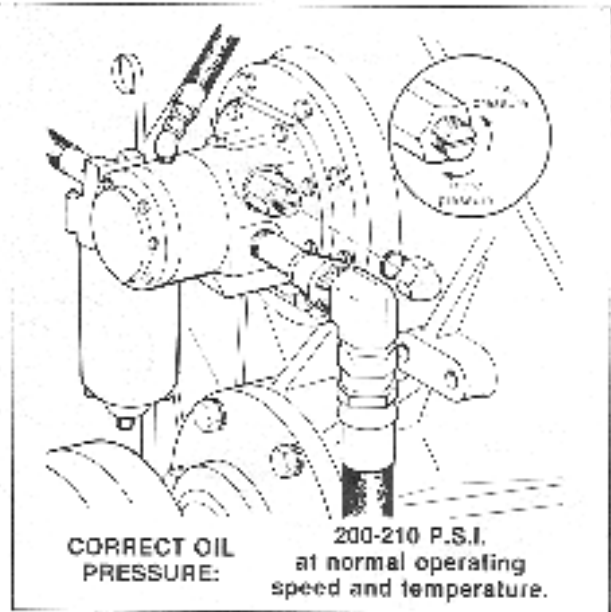

Fig. 17. Correct Operating Oil Pressure Should Be 200-210 P.S.I.
7. Be sure to re-adjust oil pressure to correct operating level when engine is started up. See Fig. 17.